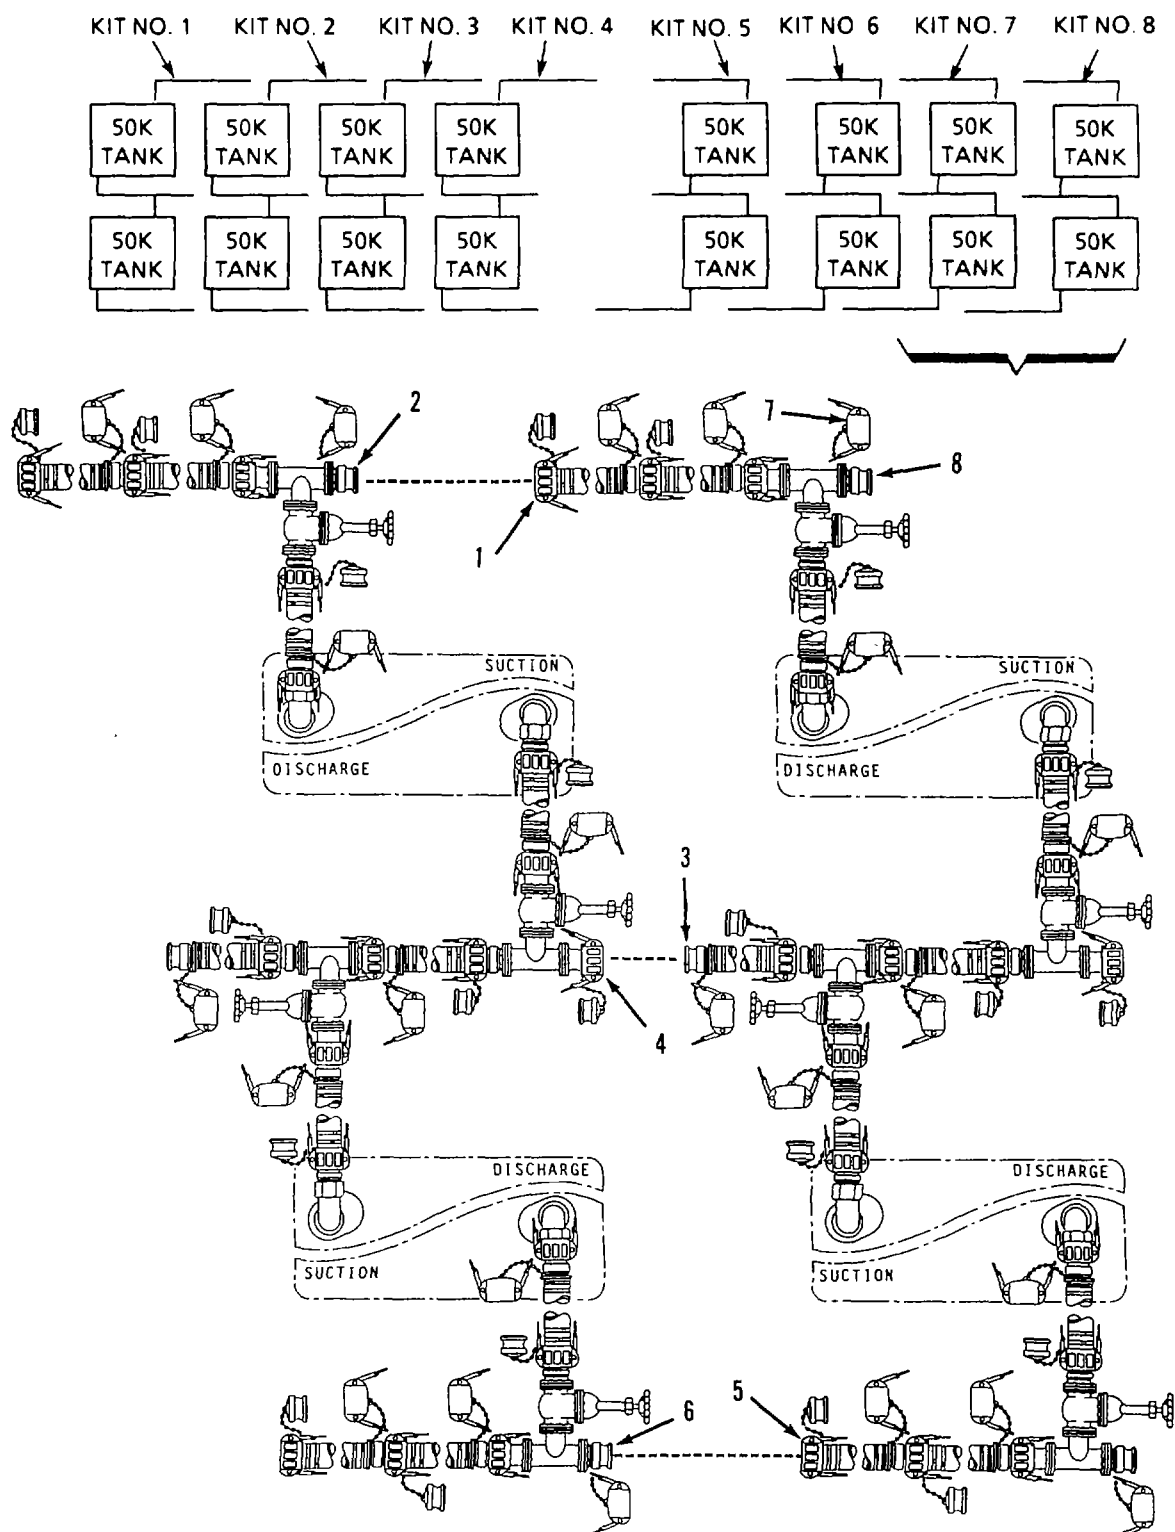

Figure 2-13. Connect Kit 7 to Kit 8.
- (14) Repeat steps (11), (12), and (13) to connect Kit No. 6 to Kit No.7.Connect Kit No.7 to Kit No.8.Refer to figure 2-13.
- (15) Connect 10 foot discharge hose (1) to tee and gate valve assembly (2).
- (16) Connect 10 foot suction hose (3) to tee and gate valve assembly (4).
- (17) Connect 10 foot discharge hose (5) to tee and gate valve assembly (6).
- (18) Install cap (7) on tee and gate valve assembly (8).
- (19) Install plug (9) in tee and gate valve assembly (10).
- (20) Cap (11) on tee and gate valve assembly (12).